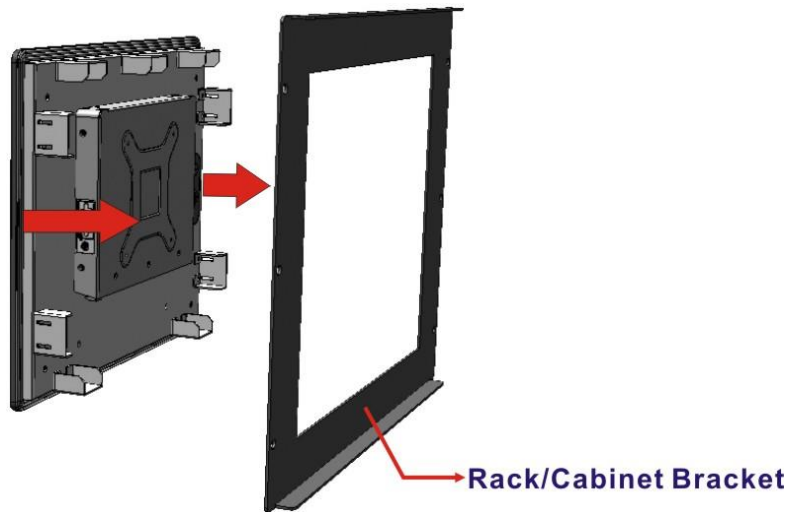

Figure 3-32: Slide into the Rack/Cabinet Bracket
Step 2: Slide the rear of the DM-F series LCD monitor through the rack/cabinet bracket until the aluminum frame is flush against the front of the bracket (**Figure 3-32**).